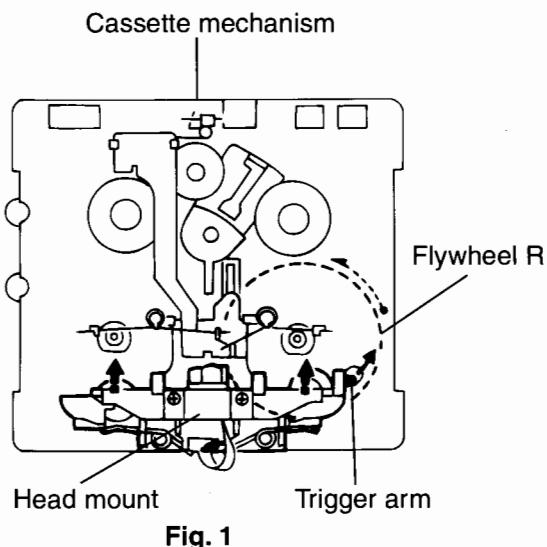

Fig. 1
(See Figs. 1 and 2)
1. While shifting the trigger arms seen on the right side of the head mount in the arrow direction, turn the flywheel R in counterclockwise direction until the head mount has gone out with a click (See Fig. 1).
(2) Life of the laser diode (Fig.1)
(Fig.1)